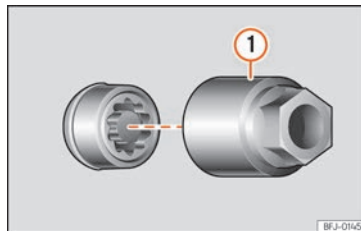

Fig. 74 Anti-theft wheel bolt with cap and adapter.
- Insert the special adapter » » » Fig. 74 ① (vehicle tools) onto the anti-theft wheel bolt and push it on as far as it will go.